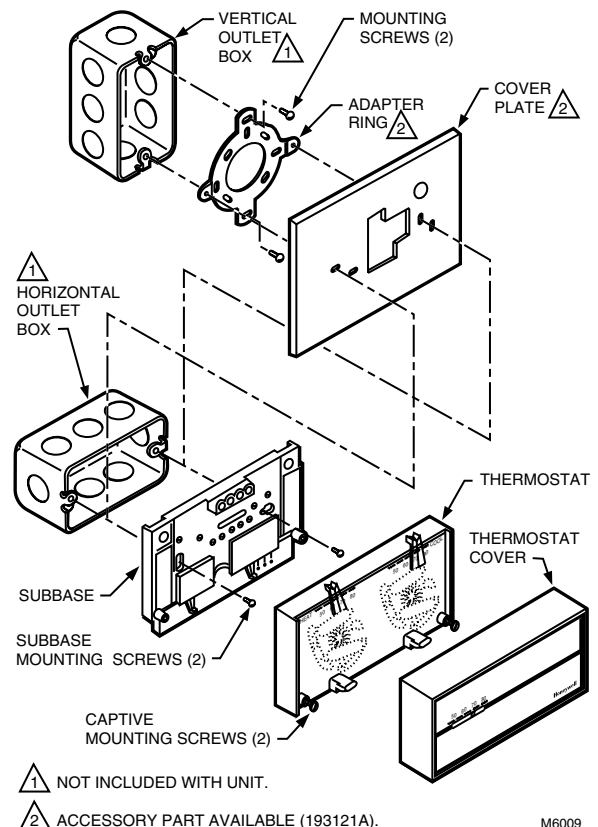

Fig. 4. Installing Q674 Subbase on outlet box.
1. If the subbase is mounted on a vertical outlet box, order Honeywell part no. 193121A Adapter Assembly. See Fig. 4. The assembly includes an adapter ring, two screws and a cover plate to cover marks on the wall. Install the ring and cover plate on the vertical outlet box.